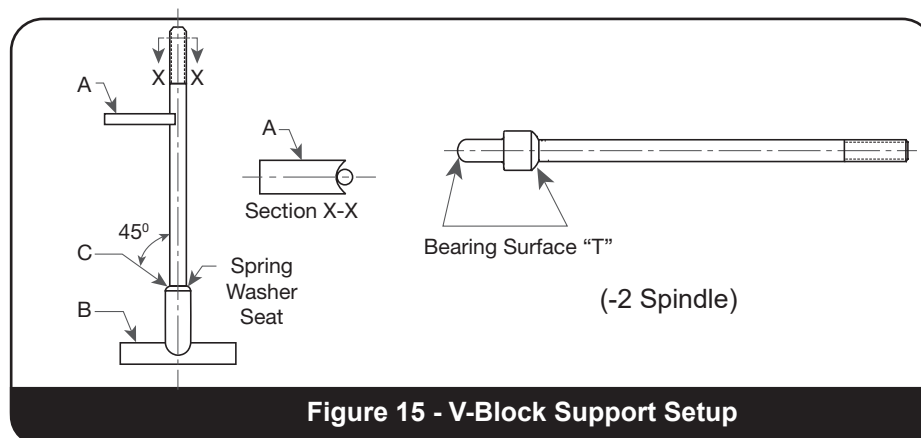

Figure 15 - V-Block Support Setup
- The ball-pointed spindles should be placed in a piece of material, "B" that has been recessed to permit free rotation of the spindle (see Figure 15 on page 31).
3. The stem is bent (see Figure 15 on page 31).